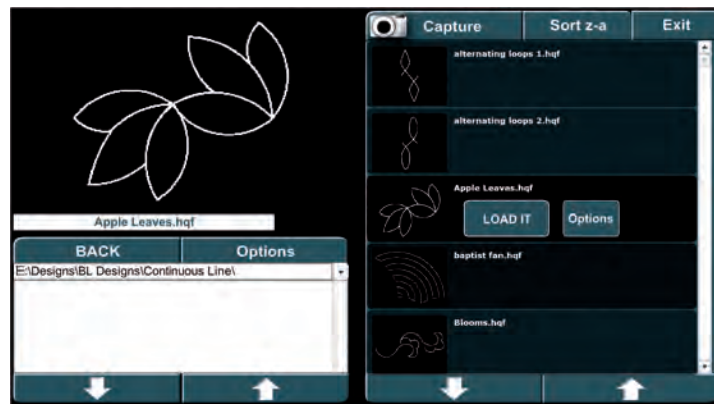
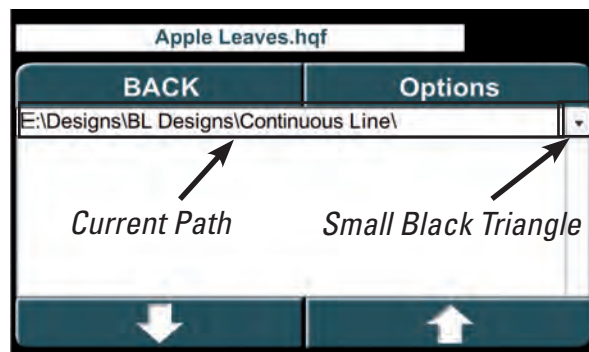

Figure 7
Figure 8
The Design Library lists folders on the lower left-hand side and the actual patterns within those folders on the right-hand side. A preview of the selected pattern is shown in the upper left-hand block. To browse through the USB flash drive, the following functions must be understood (Figure 7).
**Current Path:** The line just below the “Back” and “Options” tabs on the lower left-hand section shows the current path the Pro-Stitcher is looking at to find the patterns (Figure 7). The drive letter at the beginning of the current path should be “E:\”. If there are not any yellow folders listed below the current path on the left, and there are no patterns on the right, try pressing the “Back” button until the current path reads only “E:\”. If there are still no folders or patterns, it is possible that the USB flash drive being used has been given a different drive letter (this can happen if there have ever been two USB sticks plugged into the Pro-Stitcher computer at the same time). Check the “F:\” drive by pressing on the small black triangle located just to the right of the current path and selecting the “F:\” drive (Figure 8).